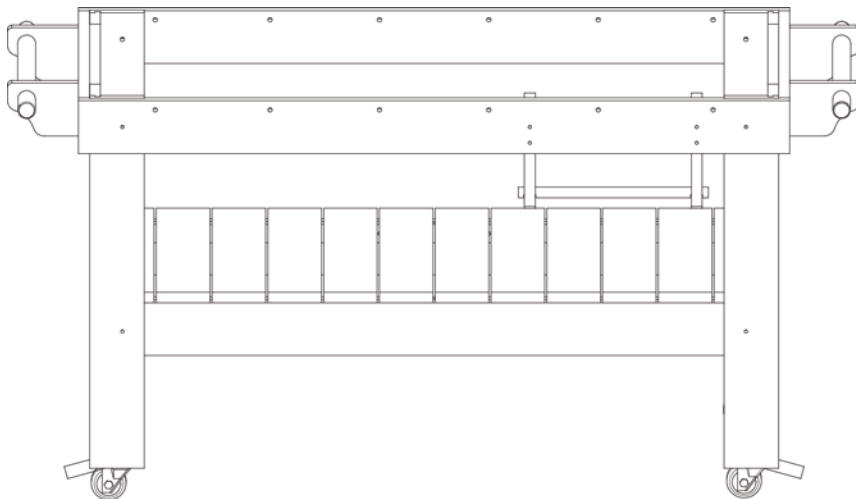

Figure 9
**STEP 2** Assemble the wood grill table all except the two table top pieces. (The wood grill table installation instruction sheet is included inside the box of the table.) (See figure 9)